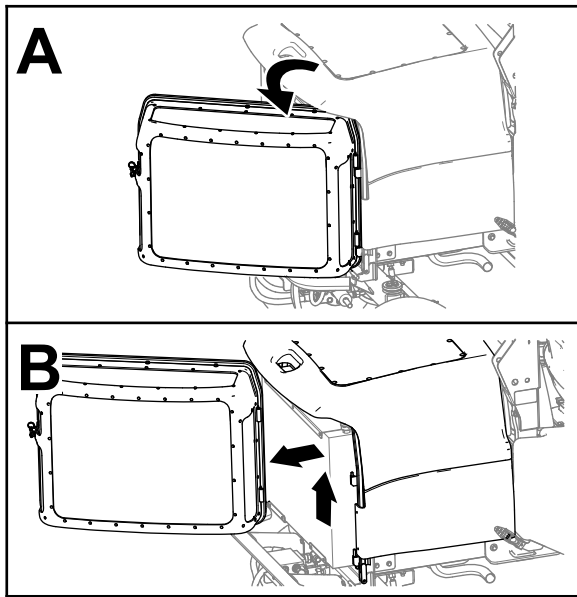

Figure 63
3. Unlatch the engine screen, open it, and lift it from the machine (Figure 63).